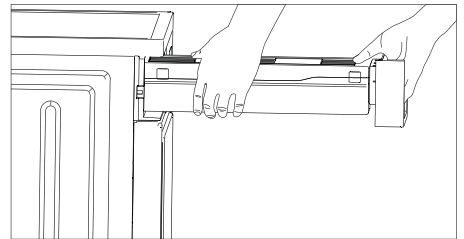

Fig12
1. Hold and pull out the water container with two hands (Fig12).